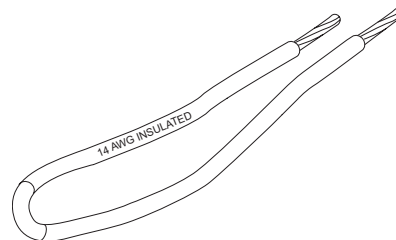
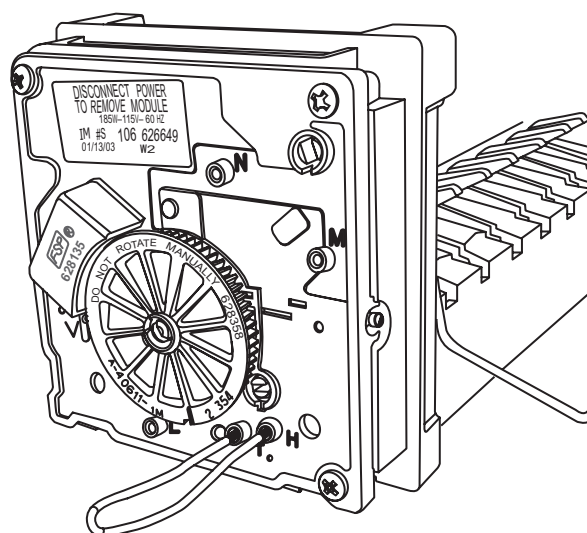

Figure 57. Jumper wire
Figure 58. Cycle testing ice maker
5. Jump terminals T and H. Use a 14 AWG jumper wire with 1/2 inch insulation stripped from each end. Jumper wire is shown in Figure 57. The jumping of T and H is shown in Figure 58.
2. Jump test point V and L. See Figure 64. Use a 14 AWG jumper wire with 1/2 inch insulation stripped from each end (as shown in Figure 57). The solenoid should click and buzz if it is operating properly. If the solenoid does not click and buzz, replace the water valve (see page 58).